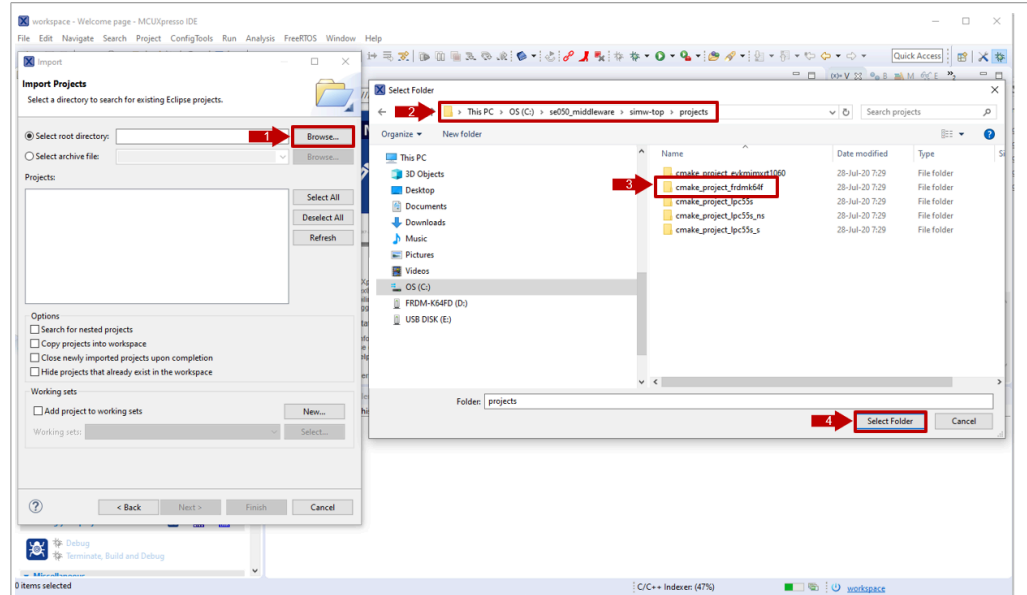

Figure 34. Select FRDM-K64F projects folder
- In the *Select root directory* option, browse to `C:\se05x_middleware\simw-top\projects` or browse the location of your FRDM-K64F projects directory. Choose the `cmake_projects_frm64f` project and click *Select folder* as shown in Figure 34: